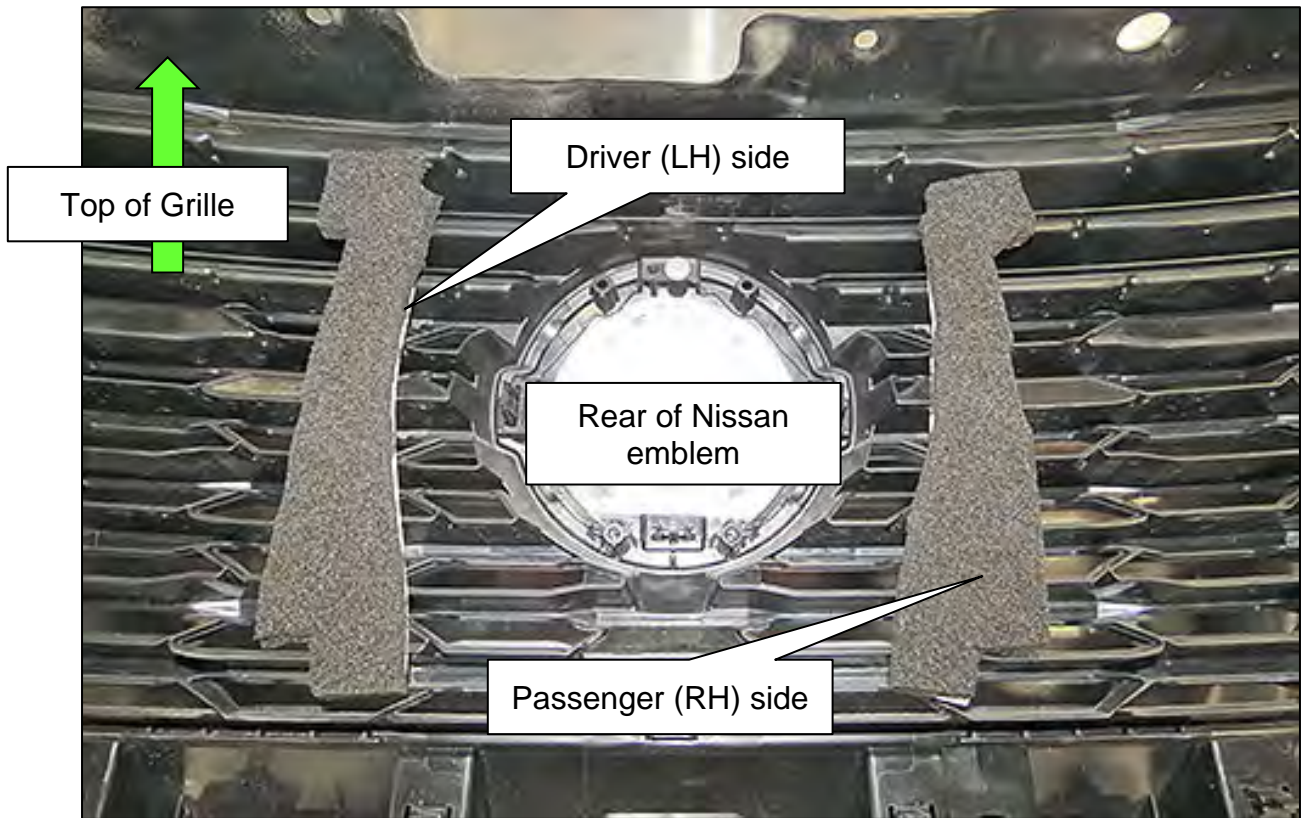
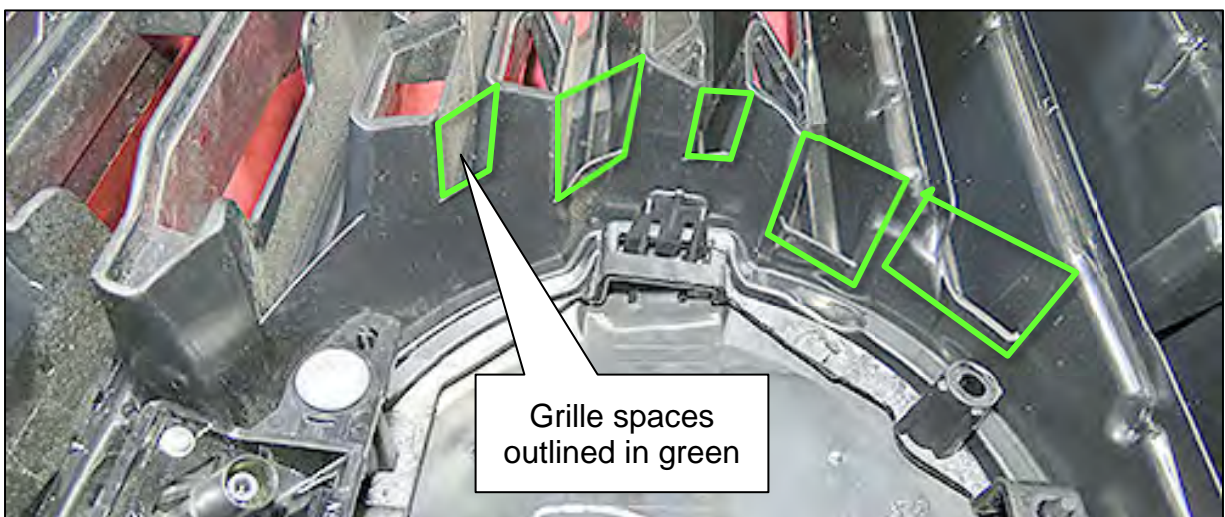

Figure 3
Figure 4
Refer to steps 4-7 to attach two (2) Foam Seals (Figure 3) to the inside of the Nissan emblem, on the Grille, to close the Grille spaces (Figure 4).
**HINT:** The Foam Seals are left and right, and are shown in Figure 3 on the sides and in orientation that they will be installed.